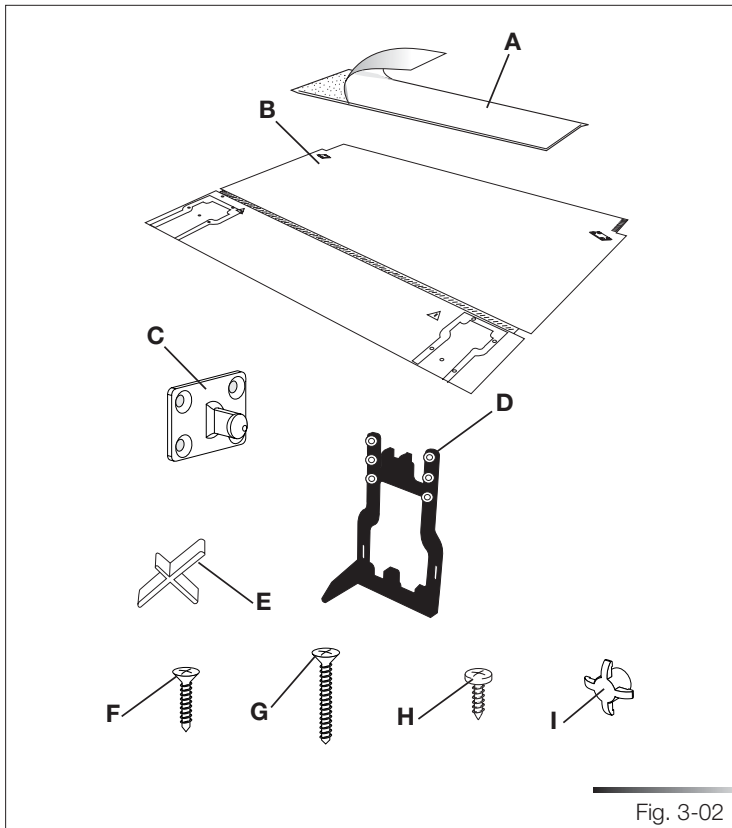

Fig. 3-02
- adhesive steam guard (ref. A fig. 3-02);
- 1 template for door panel (ref. B fig. 3-02);
- 2 aluminium hooks for upper door panel (ref. C Fig. 3-02);
- 2 plastic hooks for lower door panel (ref. D Fig. 3-02);
- 2 shims (ref. E Fig. 3-02);
- 12 screws for securing the upper and lower door panel hooks (ref. F Fig. 3-02);
- 2 screws for securing the upper door panels (ref. G Fig. 3-02);
- 2 screws for securing the dishwasher to the adjacent walls (ref. H Fig. 3-02);
- 2 screw caps (ref. I Fig. 3-02).